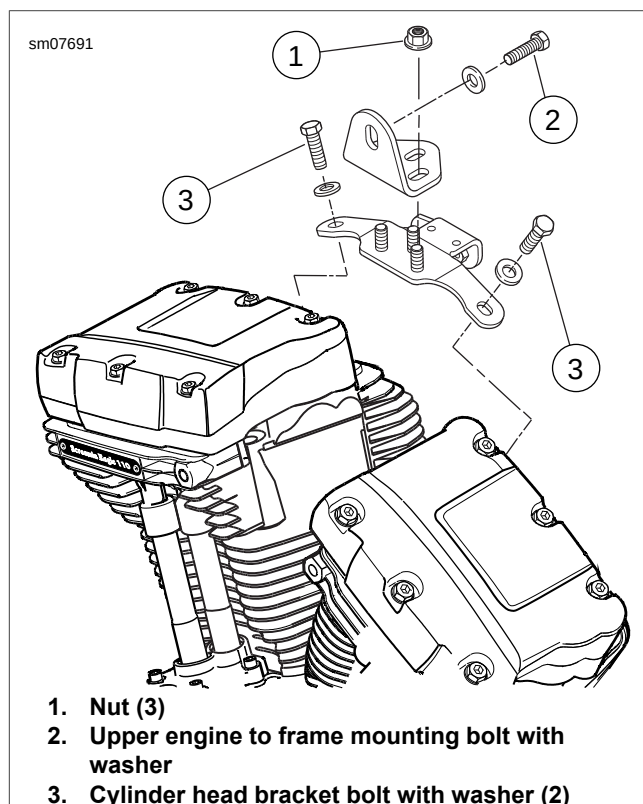

Figure 3-15. Top Engine Mount
4. See Figure 3-15. Loosen nuts (1).
5. Loosely install upper engine to frame mounting bolt with washer (2). Loosely install both cylinder head bracket bolts with washers (3).